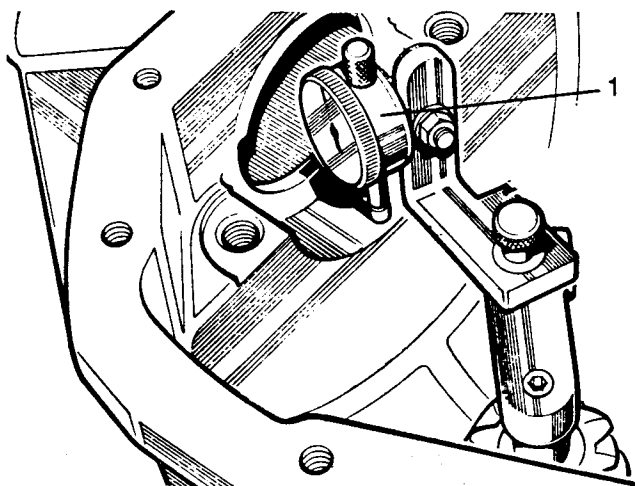

Fig J2.36
- (4) Refer to Fig J2.36. Position the dial gauge (1) centrally on the pinion end face with the stylus registering on the lowest point on one differential bearing bore. Note the dial gauge deviation from the zeroed setting.
- (5) Repeat on the other bearing bore. Add together the readings then halve the sum to obtain the mean reading. Note whether the stylus has moved up or down from the zeroed setting.